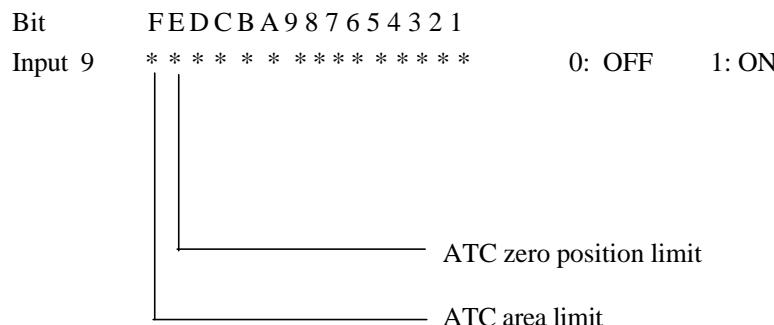

Fig.2 Input/ Output (main1) Input 9
- 1) For the cause 2, check if ATC area limit switch is working properly, referring to the input 5 or 6 (refer to fig.2) on the input/ output screen (slave).